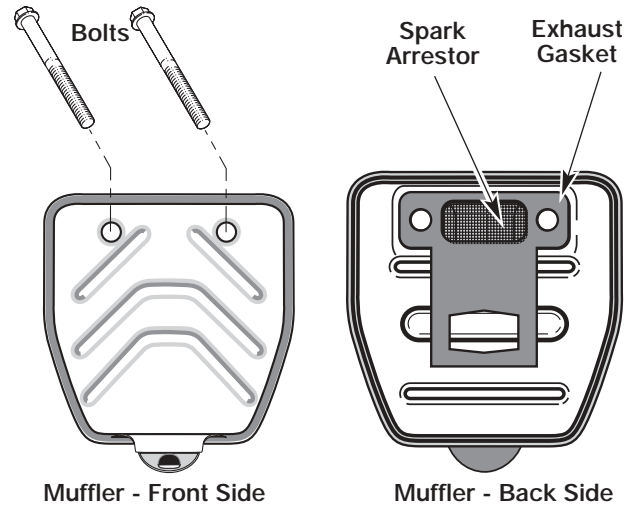

Figure 31
- Locate muffler front and the two (2) bolts securing it to the engine. See Figure 31. Remove the two (2) bolts using a flatblade screwdriver or 5/16-inch socket or nut driver. Pull muffler off of the engine.
- Turn muffler over to the back side and locate the exhaust gasket. Remove the muffler gasket from the muffler. See Figure 31.
- Place the exhaust gasket against muffler's back side. Align the gasket bolt holes with the bolt holes in the muffler. While holding exhaust gasket in place, insert the bolts into the muffler's front side. See Figure 31.